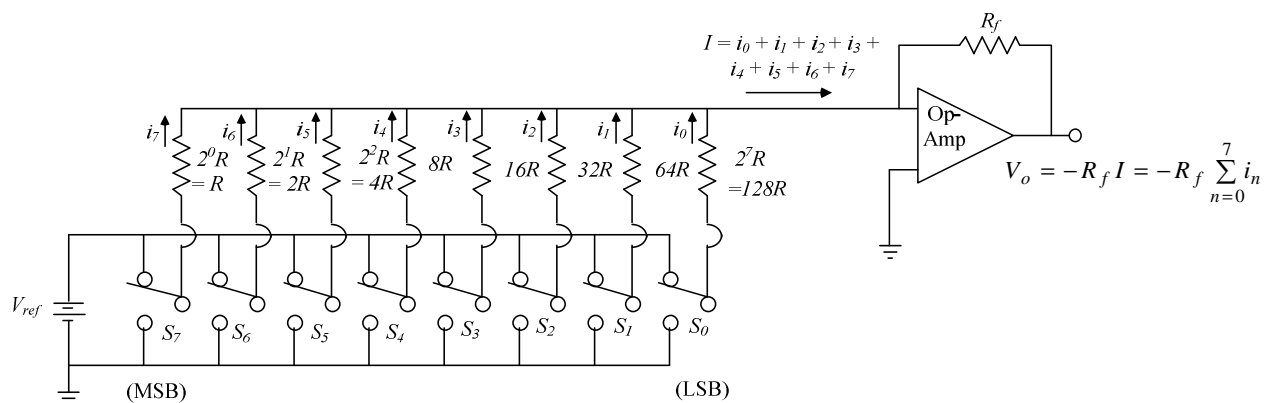

Figure 1: Switch positions corresponding to the 8-bit word: 1 1 1 1 1 1 1 1
The essential feature of an 8-bit Binary-Weighted Resistance D/A converter is the circuit shown in Figure 1. The circuit consists of:
- (b) A total of eight switches, labeled $S_0, S_1, S_2, \dots, S_7$. Note from Figure 1 that these switches are labeled in ascending order from right to left. Switch S_0 corresponds to the least-significant bit (LSB) in the 8-bit digital word, whereas switch S_7 corresponds to the most-significant bit (MSB). Also note that the reference voltage (V_{ref}) is applied across all eight switches.
- (c) A total of eight resistances, ranging in value from $2^0R = R$ to $2^7R = 128R$. Note from Figure 1 that these resistances increase in value from left to right. Resistance $2^7R = 128R$ is connected to switch S_0 and is associated with the LSB, resistance $2^0R = 64R$ is connected to switch S_1 , resistance $2^5R = 32R$ is connected to switch S_2 , etc, resistance $2^0R = R$ is connected to switch S_7 and is associated with the MSB.
Current I depends on the positions of switches S_0 - S_7 . There are eight switches in this example (since an 8-bit word is being illustrated), and each switch can be thought of as a binary number, a_i , where $a_i = 0$ or 1 . (Of course, if a 16-bit word were being illustrated, there would be 16 switches, etc). If $a_i = 0$ the switch is open, whereas if $a_i = 1$ the switch is closed. In Figure 1 all switches are closed, and hence Figure 1 illustrates the 8-bit word: 1 1 1 1 1 1 1 1. Further, the total current passed by the D/A circuit equals the sum of the current that pass through each switch: $I = i_0 + i_1 + i_2 + i_3 + i_4 + i_5 + i_6 + i_7$